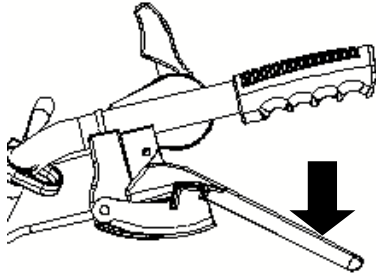

Fig 4-16
3.2.1 unlock the Clutch lever. ( Fig 4-16 )